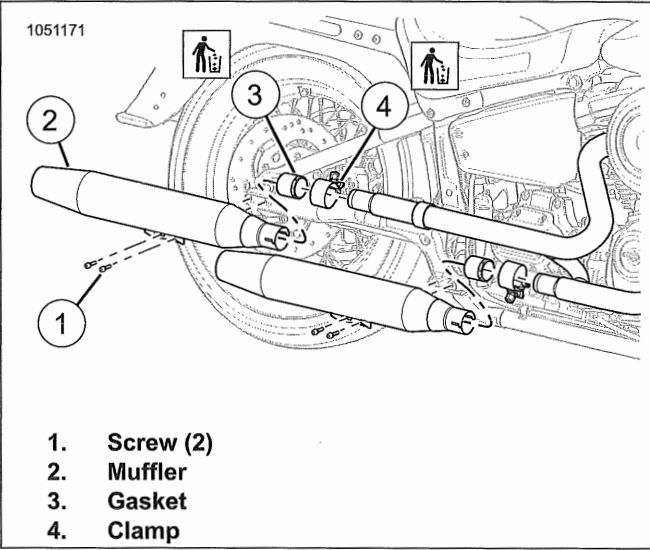
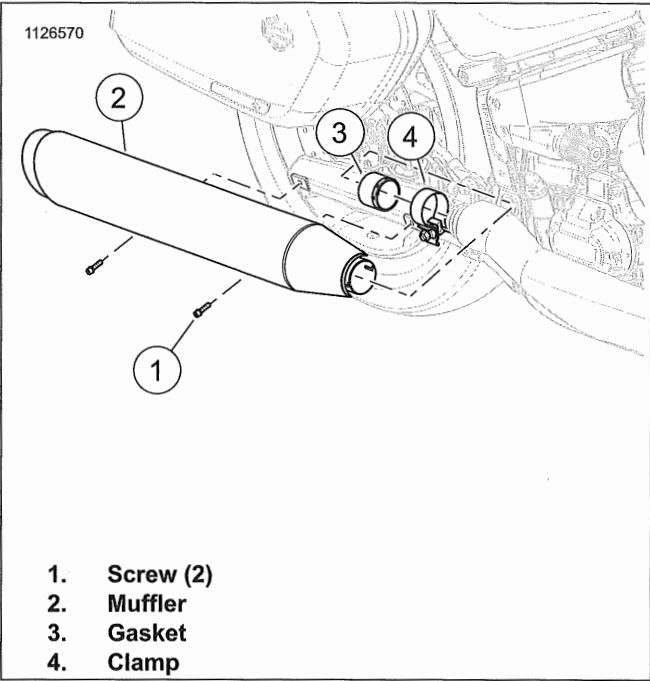

Figure 6-39. Muffler
Figure 6-40. Single Muffler
1. See Figure 6-39 or Figure 6-40. Remove muffler.
- a. Discard clamp (4).
- b. Remove screws (1).
- c. Remove muffler (2).
- d. Discard muffler gasket (3), if equipped.
1. See Figure 6-39 or Figure 6-40. Install **new** gasket into muffler, if removed.
- a. Loosely install **new** clamp (4).
- c. Install screws (1). Hand-tighten.